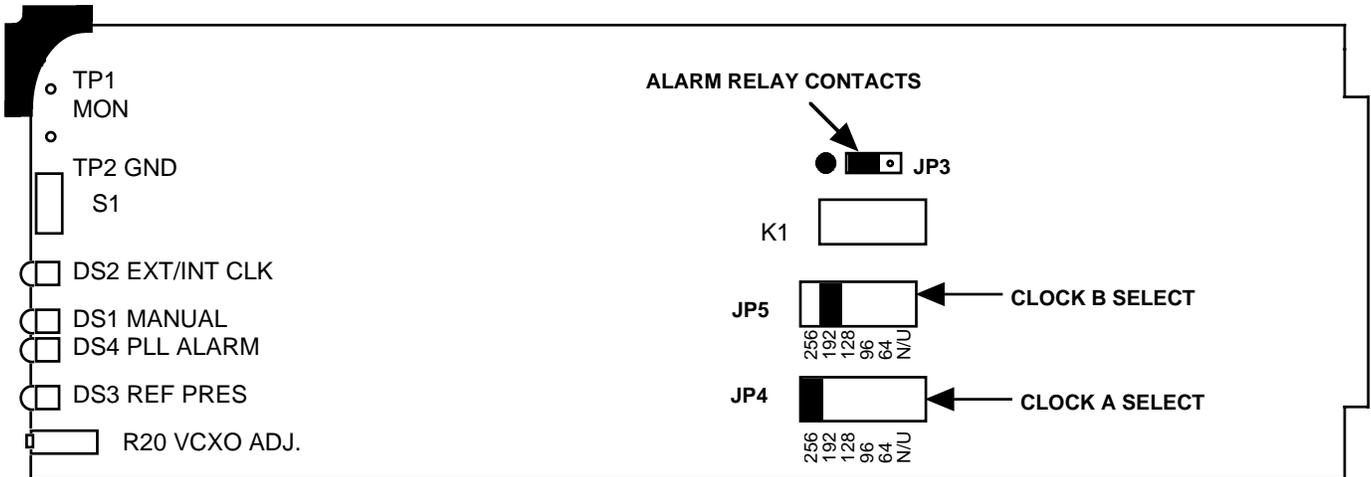

FIGURE 2.4 2099-42 On-Card Jumpers and Controls
2.4 Jumper Settings - Figure 2.4 and Table 2.2 show jumpers and other on-card controls.
- 1.) If different from factory settings (Table 2.2), set on-card jumpers as desired (Figure 2.4)